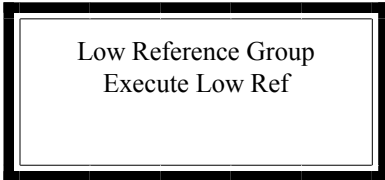

Figure 9a: Executing Low Ref:
- 2) Toggle the “Next” key until you reach the “Execute Low Ref” Menu, Figure 9a, and press the MODify key, and follow the two remaining prompts. (Continue, Save)